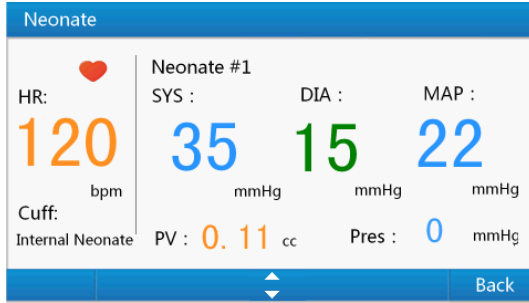

Figure 20 Neonate BP simulation interface
- 1) Select "**Neonate**" in "**BP Simulation Menu**" or use number key "**8**" to the neonate BP simulation interface shown as Figure 20.